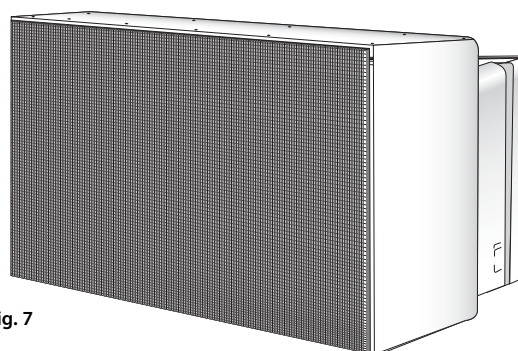

fig. 7
On request, it is possible to supply a special grille to be placed on the outdoor wall (see fig. 7).
4. Apply the insulated flanges on the rear panel in order to create the right contact with the air conditioner (IMPORTANT: the cut flange must be applied near hole A shown in Fig. 7 where the insulated pipe will be connected) and fastened to the body of the machine using bi-adhesive tape (recommended) or self-tapping screws of 1.5 cm maximum length (N.B.: for the holes in the unit's rear panel, mount a spacer on the drill bit that prevents drilling to a depth of more than 1.5 cm); this installation is not fixed because minimum oscillations might shift the air suction and expulsion pipes.
5. Apply plastic pipes of diameter and length adequate to the distance of the air conditioner from the glass itself to the flanges applied on the rear panel, making sure that the pipe lined with condensate-proof material is inserted in hole "A" in Fig. 7.
6. Whenever the pipes supplied are not used, remember to provide the air expulsion hole (hole "A" in Fig. 7) with condensate-proof lining for its entire length.